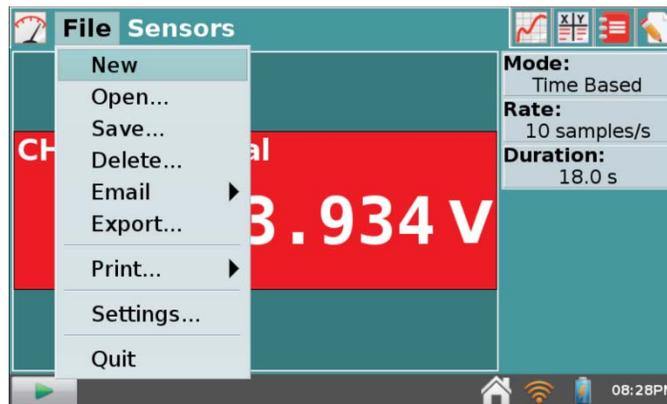

Figure 4 – 'File Menu' from LabQuest.
- Using the stylus included with the LabQuest unit tap the ‘File’ menu (see Fig. 4).